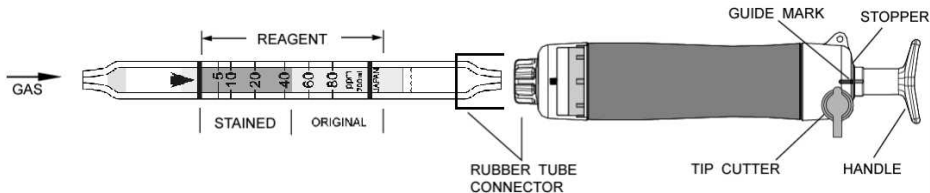

Fig.1
- ② Insert the detector tube into the aspirating pump securely as shown in Fig.1. (Arrow mark shall point to the pump.)
- ③ Align the guide marks on the shaft and stopper of the aspirating pump.
- ④ Pull the pump handle at a full stroke until it locks and wait for 1.5 minutes or until the completion of sampling is confirmed with the flow indicator of the pump. (See descriptions about the flow indicator in the instruction manual of the pump.)
- ⑤ Push back the handle without removing the detector tube from the rubber tube connector so that air in the pump will be discharged perfectly. Then repeat the steps ③~④ once more.
- ⑥ On completion of sampling, read the scale at the maximum point of the stained layer.
- ⑦ When the concentration is over the scale range, 1 pump stroke can be used to determine concentrations of 12.5 to 200 ppm.